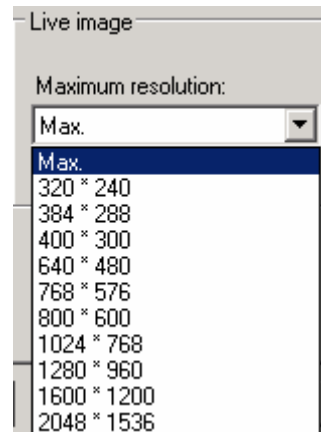

Fig. 43 "Live image" group field
2. Select the desired max. resolution in the **Live image** group field (see Fig. 43).